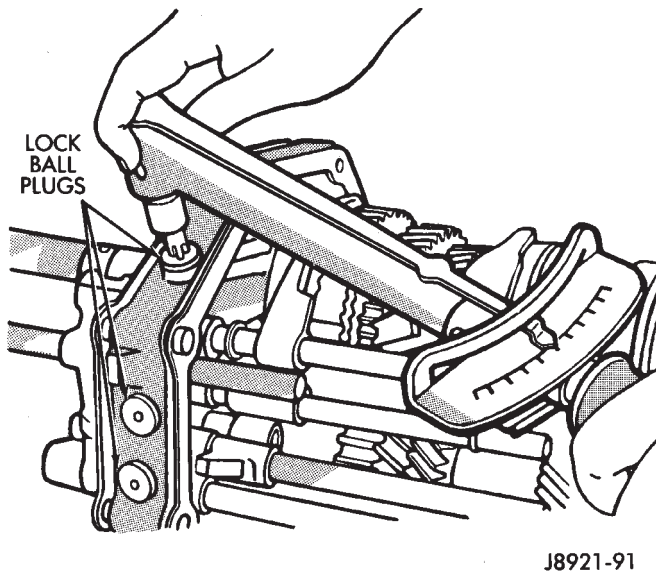

Fig. 84 Installing Lock Ball Plugs
(21) Apply sealer to threads of lock ball plugs.
(22) Install lock balls and springs in intermediate plate. **Short spring goes in top hole of intermediate plate.**
(23) Install lock ball and spring plugs (Fig. 84). Tighten plugs to 19 N·m (14 ft. lbs.) torque.